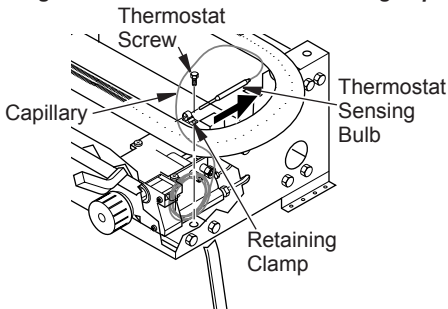

Figure 36 - Removing Thermostat Sensing Bulb
2. With 1/4" hex driver or socket, loosen the thermostat screw. Carefully slide the thermostat sensing bulb out of the retaining clamp (see Figure 36).